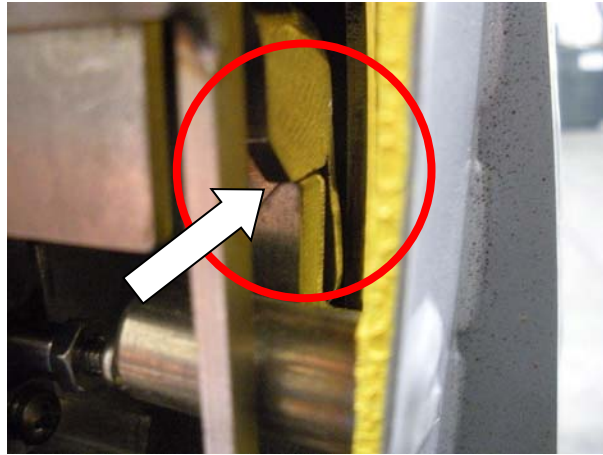

FIGURE 4-23: ROLLSTOP CATCH ON TOP OF ROLLSTOP ENGAGEMENT HOOK
- 19) Refer to **Figure 4-23**. Place Rollstop Catch on top of Rollstop engagement hook and hold Rollstop in this position.